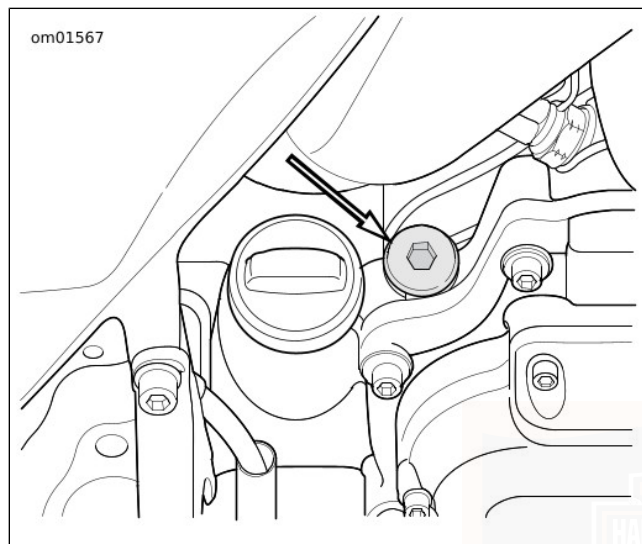

Figure 58. Transmission Filler Plug/Dipstick Location
2. See Figure 58. Remove transmission filler plug/dipstick. Wipe dipstick clean.
1. See Figure 58. Remove transmission filler plug/dipstick.